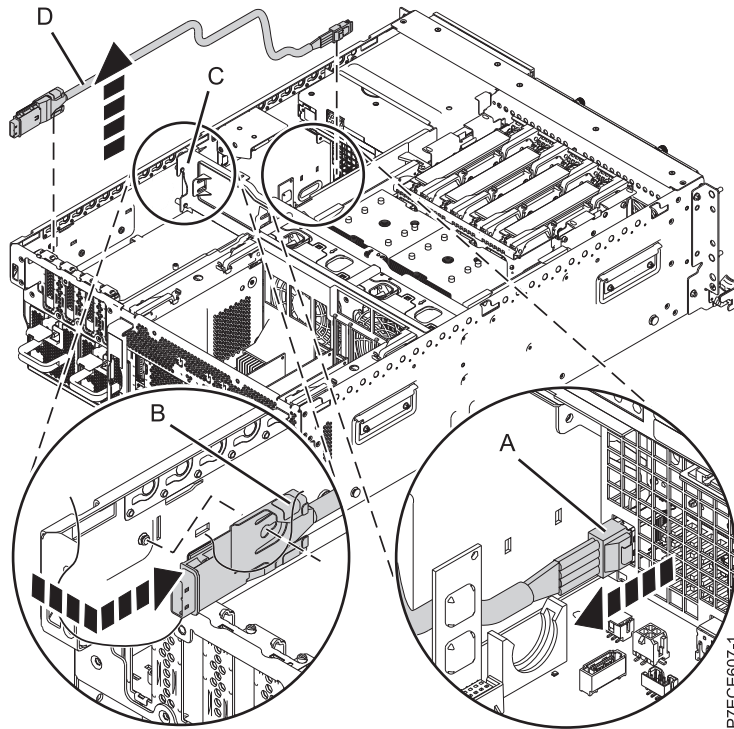

Figure 38. Removing the external SAS port
9. Press the side tab and pull out the SAS shroud **(A)** from the external SAS connection port on the disk drive backplane, as shown in Figure 38 on page 89.